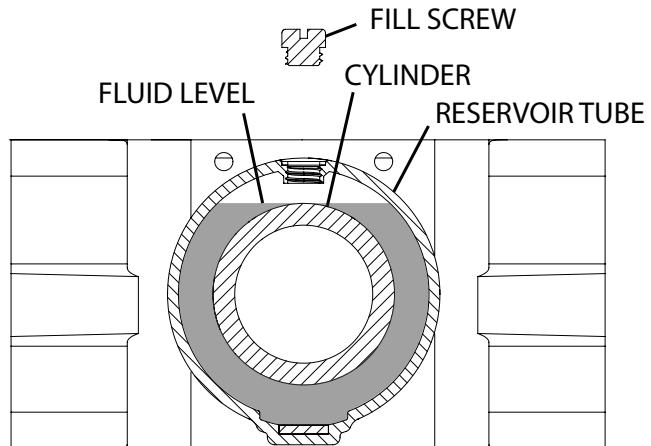

Figure 2
3. Remove the fill screw from the power unit's reservoir as shown in Figure 2. Look through the fill screw hole in the reservoir to see that the fluid level is no higher than the top of the cylinder inside the reservoir. It may be necessary to add or remove fluid accordingly.